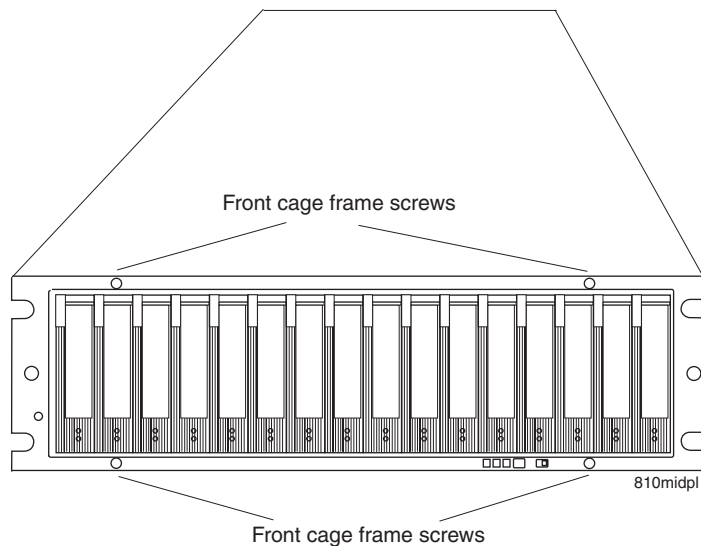

Figure 64. Front cage frame screw locations
11. Use a #1 Phillips screwdriver to loosen the four front cage frame screws on the midplane, as shown in Figure 64.
18. Tighten the four front cage frame screws. See Figure 64 on page 129.